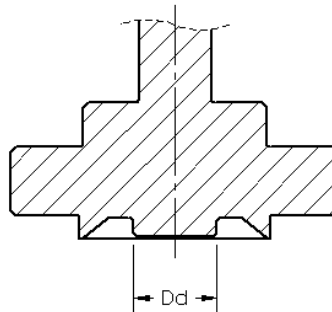

Figure 22: Critical Disk Dimension
4. Referring to Figure 22, measure the diameter D_d . This diameter must be within the range of values listed in **Table 4**.